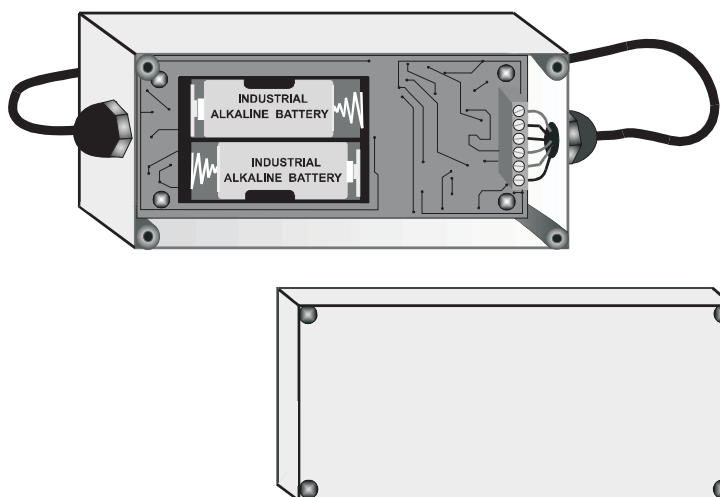

Figure 35 Replacing RS232 Batteries
1. Remove the cover from the RS232 interface (Figure 35).